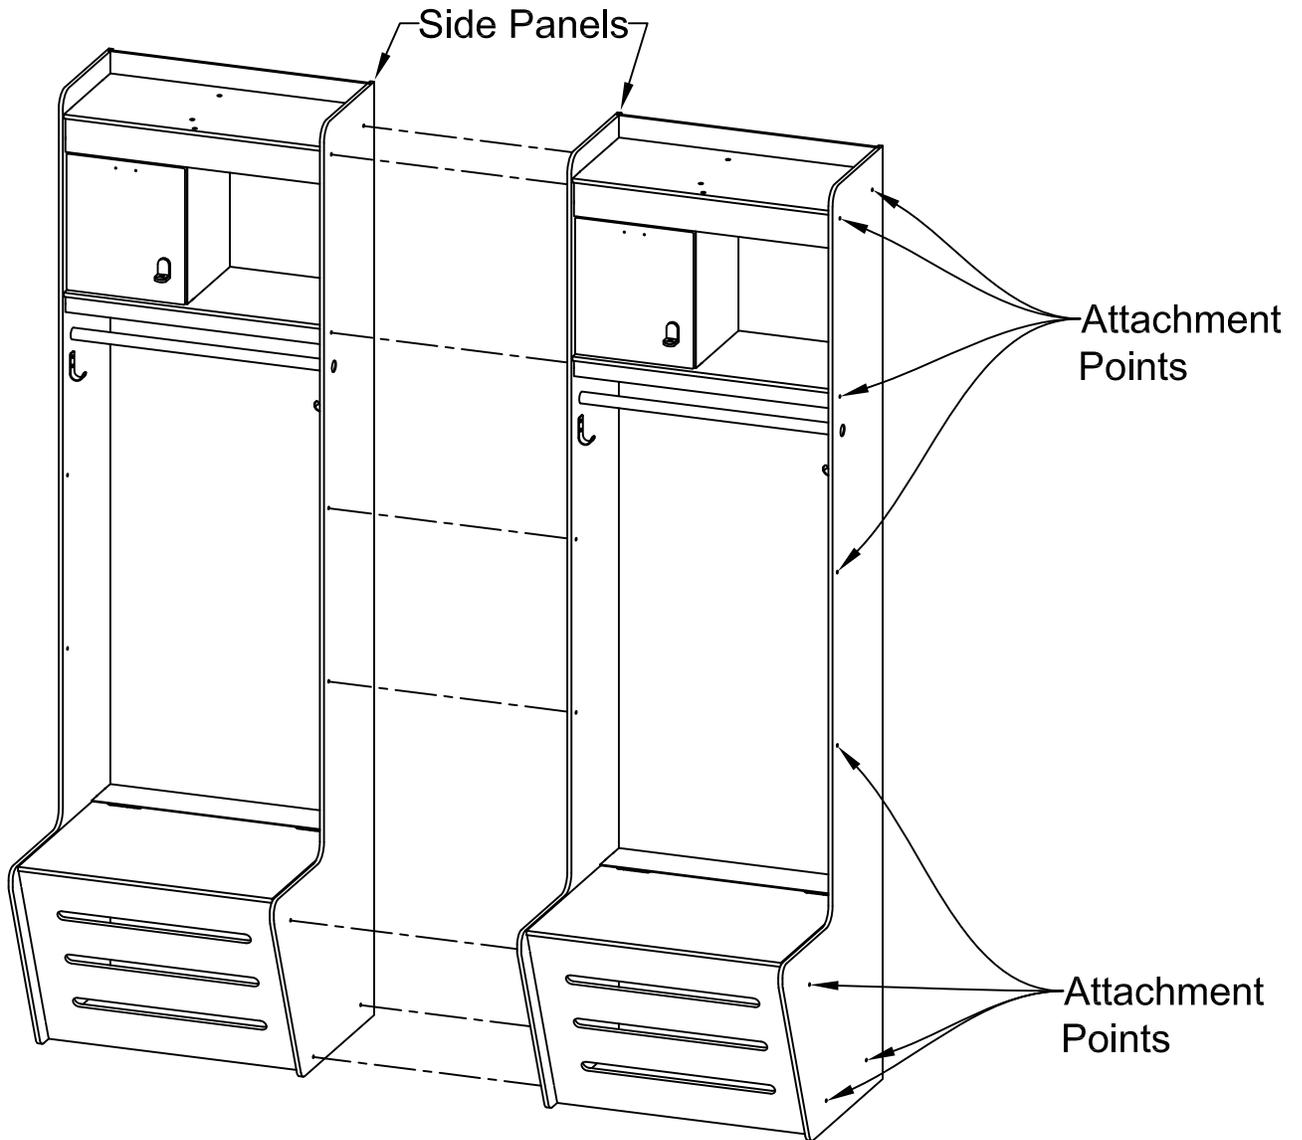

Figure 2.1: Adjacent Locker Installation
- 4.1 Starting in the corner or wall where the run of locker begins, begin with standing two lockers up and thru-bolt the side panels together. Use the locker connecting bolts and barrel nuts provided. There will be 8 sets of fasteners for each side to side locker connection, see Figure 2.1.